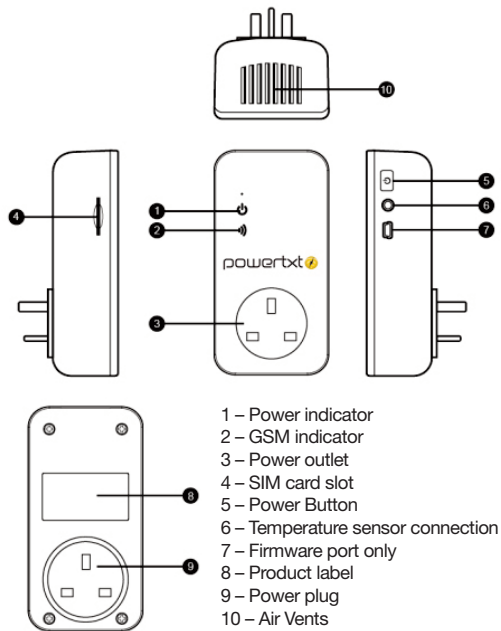

Figure 1
1. Insert the SIM into the side of the device (see figure 1), push the SIM all the way in until it clicks (to release the SIM simply push down on the SIM until it pops out).
2. Insert the temperature sensor into the side of the socket (see figure 1 & 2). Note - the temperature sensor needs to be pushed all the way in otherwise it can give inaccurate readings.
Press the Power Button (see figure 1) on the side of Powertxt® for 1 second until the power (output) light goes off/on and then again to turn power (output) back on/off.